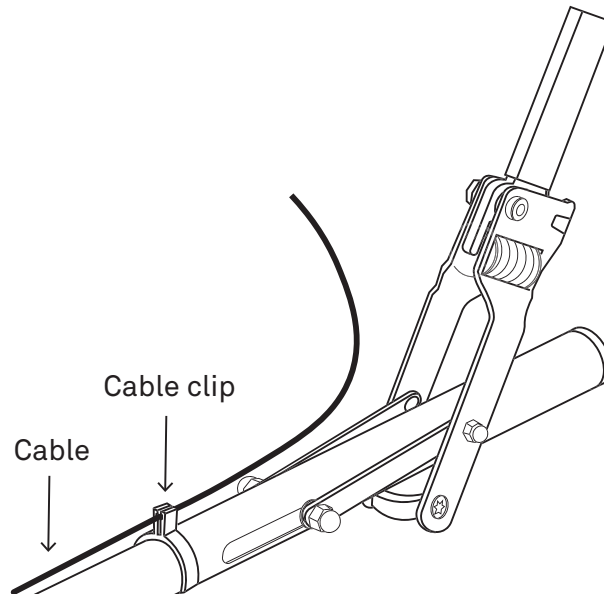

Figure 27 Cable clip on handle
4. Press the sensor cable into the cable clip mounted on the handle rod right below the handle lever (Figure 27).